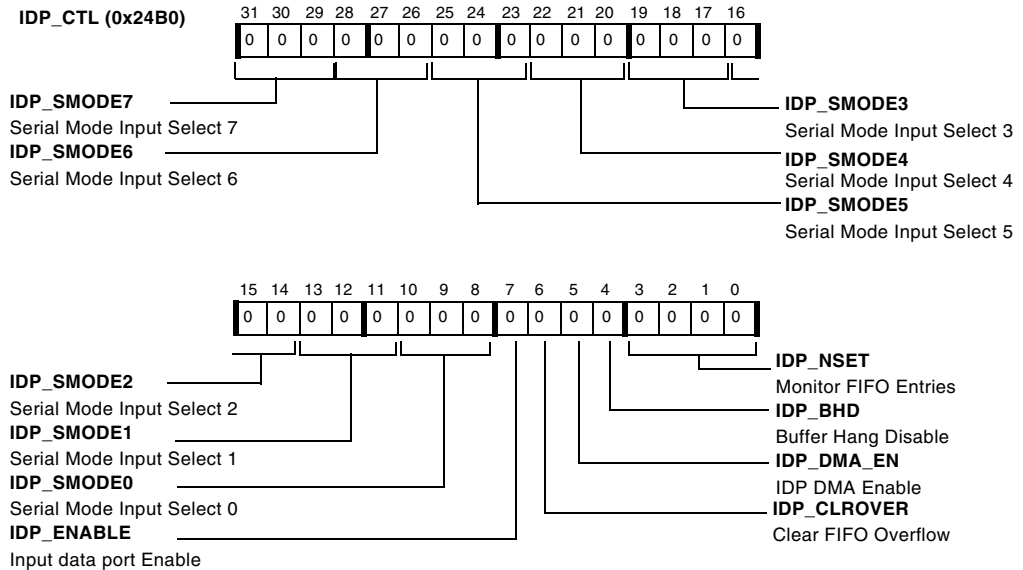

Figure A-62. IDP\_CTL Register
- IDP\_CTL, described in Figure A-62